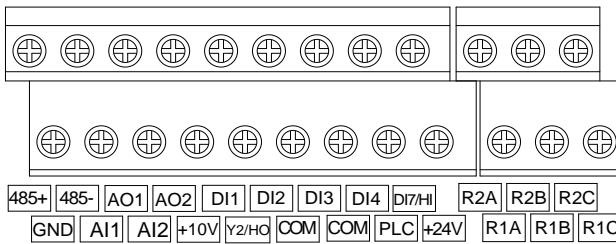

Figure 2-28c PV500 Control Circuit Terminals
**C: Control circuit A (Fig2-28c)**